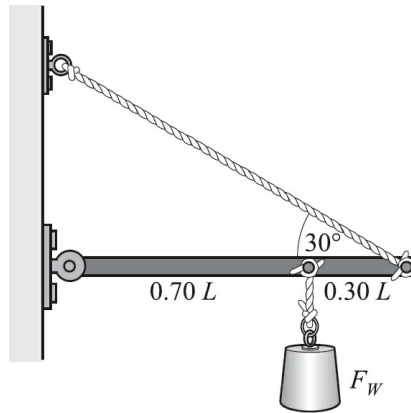

Fig. 5-23
5.33 [III] In Fig. 5-23, the uniform horizontal beam weighs 500 N. If the tie rope can support 1800 N, what is the maximum value the load F_W can have?